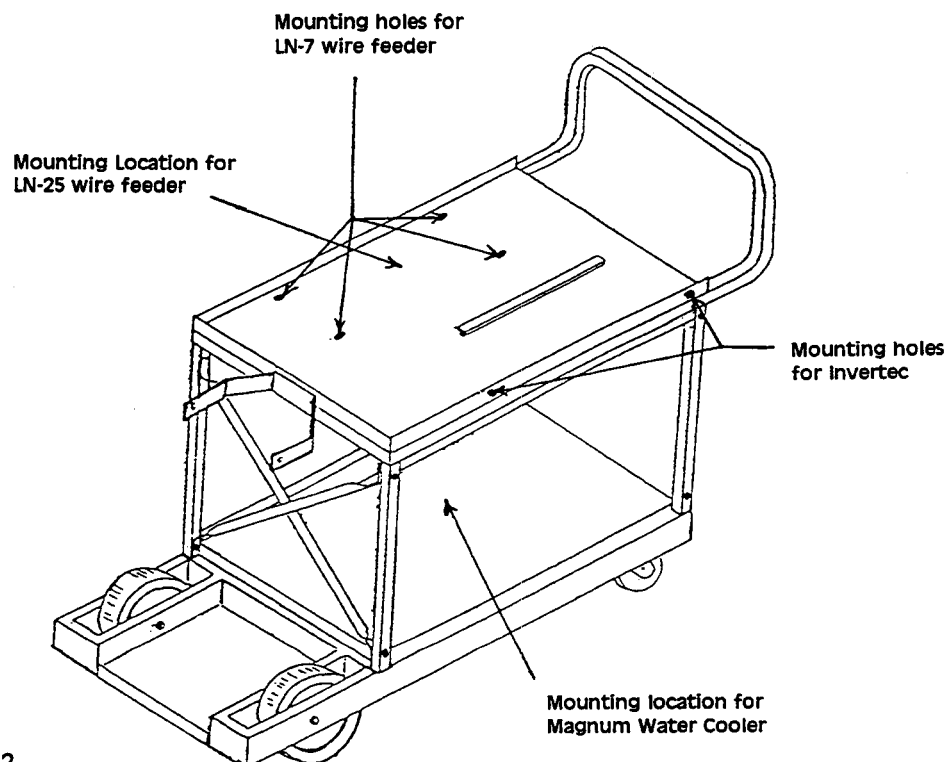

Figure 2
2. Remove two self tapping screws on Inverter case that correspond to the mounting locations shown in Figure 2
1. Place LN-7 on cart shelf with operator controls toward cart handle and align with the four tapped holes as shown in Figure 2
Place LN-25 on cart shelf with operator controls toward handle. No mounting required. See Figure 2 for LN-25 placement.
Place Magnum water cooler on cart base assembly with operator controls toward cart handle. No mounting required. User will be required to supply 115 VAC to power the water cooler. See Figure 2 for water cooler placement.